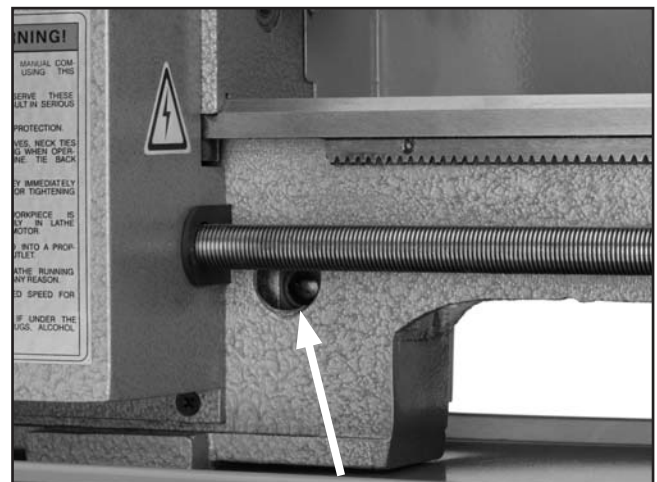

Figure 37. Front motor brush cap.
2. Remove the front and rear caps (see **Figures 37 & 43**).